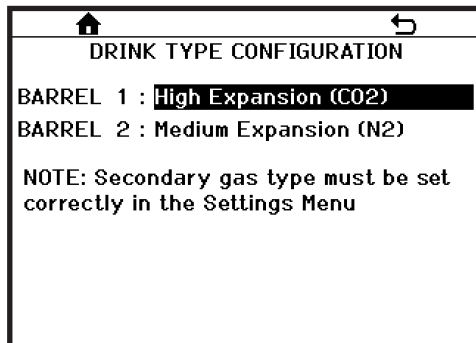

**Figure 7.17**
- **GAS CONFIGURATION:** Used to display and, based on dispenser model, select the gas that will be used in the dispenser (Figures 7.17 and 7.18).
- For standard dispensers with no multi-gas or multi-drink functionality (**Figure 7.17**) this menu displays the gas (CO2 or NITROGEN; determined by dispenser configuration) that is injected into the barrels and that operates the water pump and active charge system.